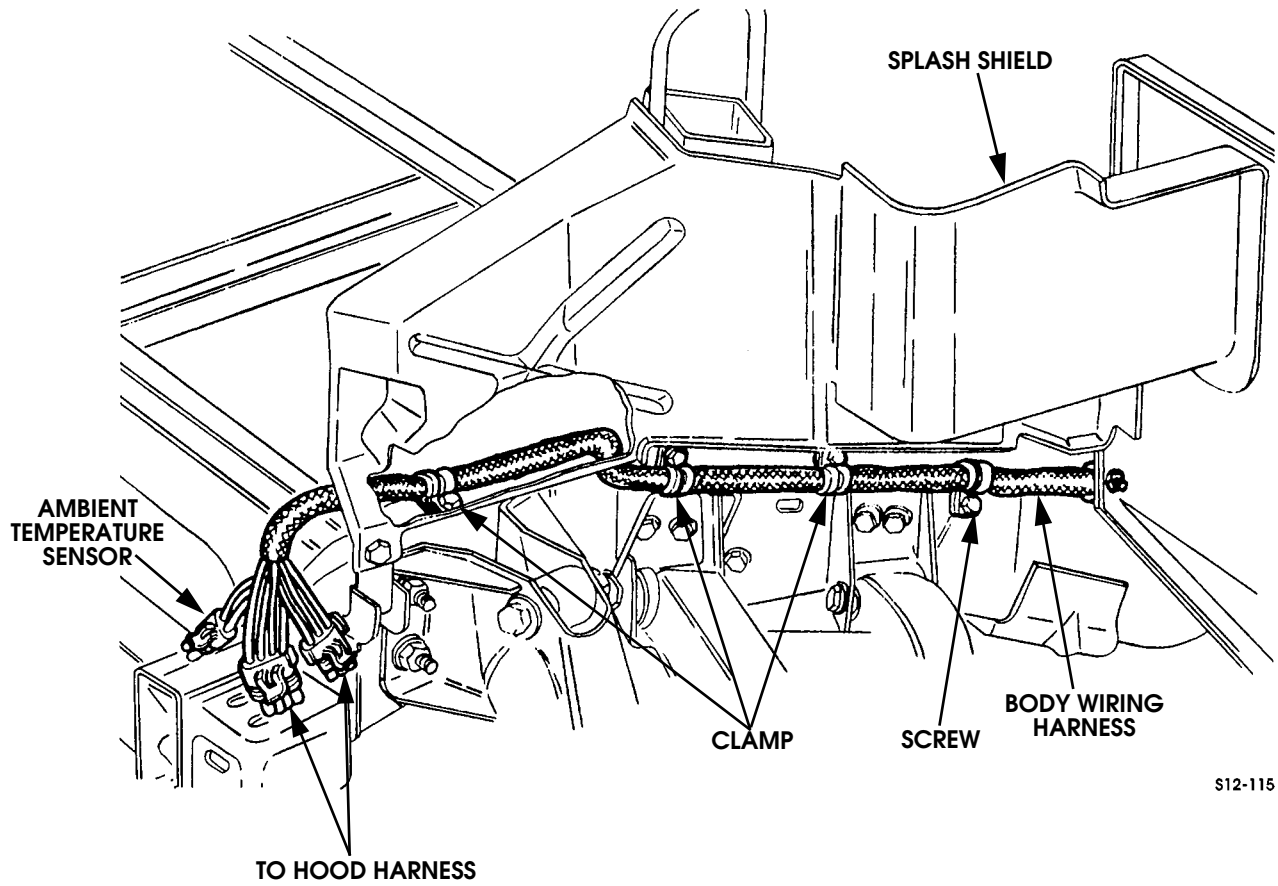

Figure 12-91: Harness to Splash Shield Retainers
0. Remove two body wiring harness connectors from hood harness connectors (Figure 12-91).